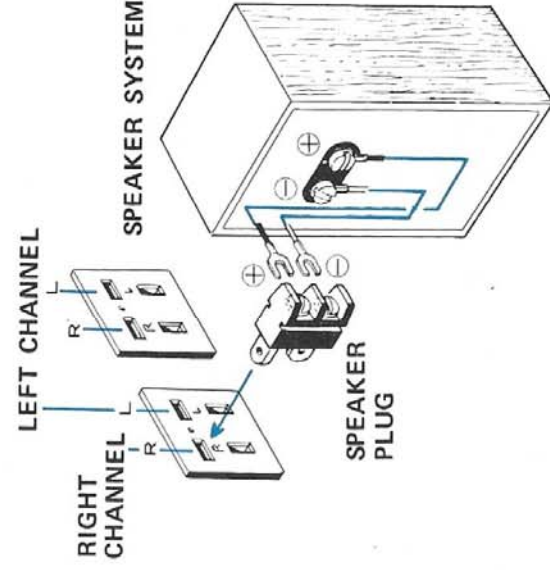

Fig. 3
- As shown in Fig. 3, connect the lead wires of the speaker system to the supplied speaker plugs. Be sure to observe the correct polarity and no short between \oplus and \ominus .